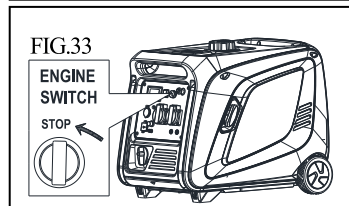

FIG.33
2. Turn the engine switch to **STOP** position. **FIG.33**